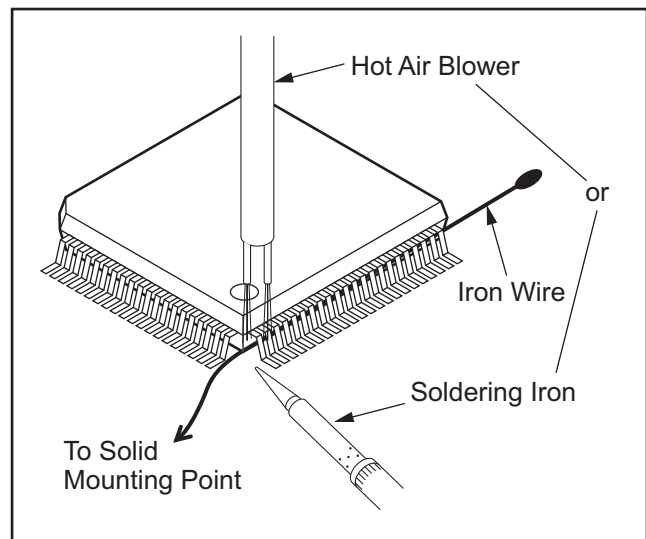

Fig.5
- (2) Affix the wire to a workbench or solid mounting point, as shown in Fig. 5
- (3) While heating the pins using a fine tip soldering iron or hot air blower, pull up the wire as the solder melts so as to lift the IC leads from the CBA contact pads as shown in Fig. 5